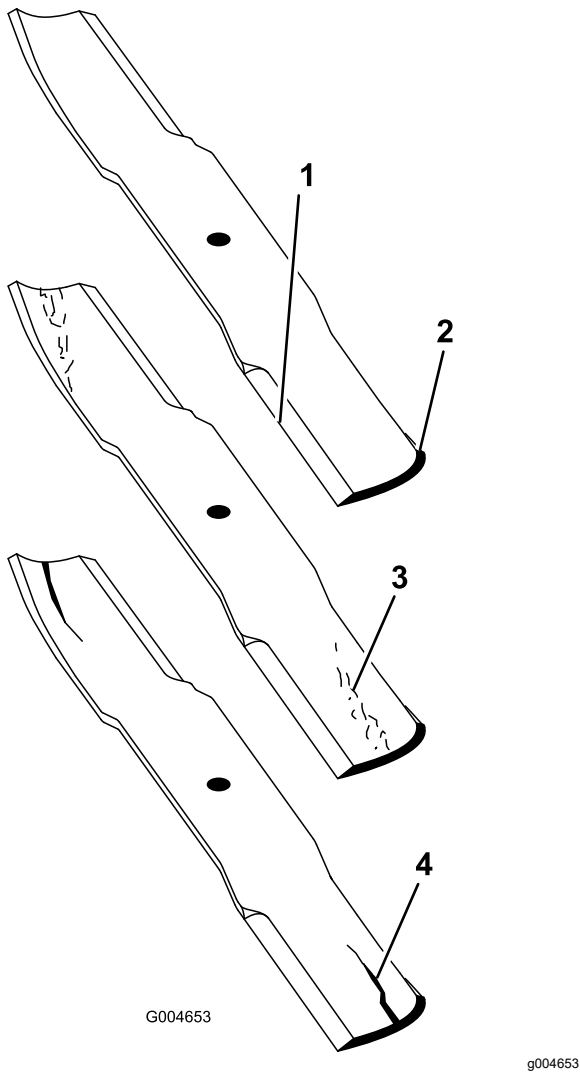

Figure 76
2. Examine the cutting ends of the blade carefully, especially where the flat and curved parts of the blade meet (Figure 76).
Note: Because sand and abrasive material can wear away the metal that connects the flat and curved parts of the blade, check the blade before using the mower. If you notice wear (Figure 76), replace the blade.